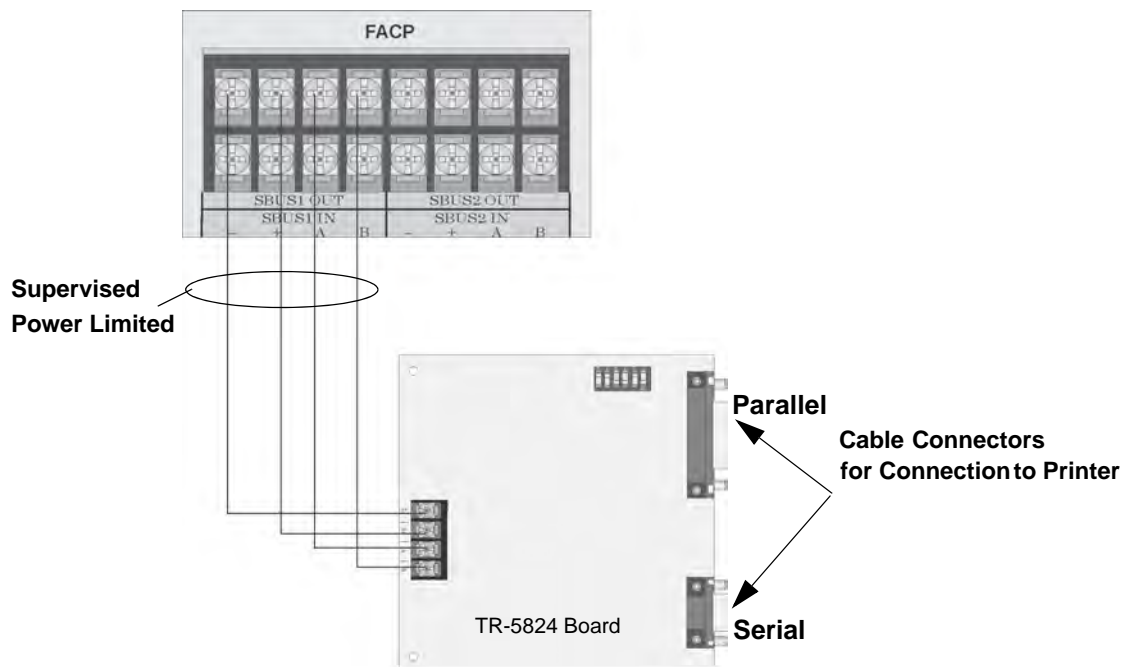

Figure 4.25 TR-5824 Connection to the Panel
2. Connect the TR-5824 to the FACP as shown in Figure 4.25.